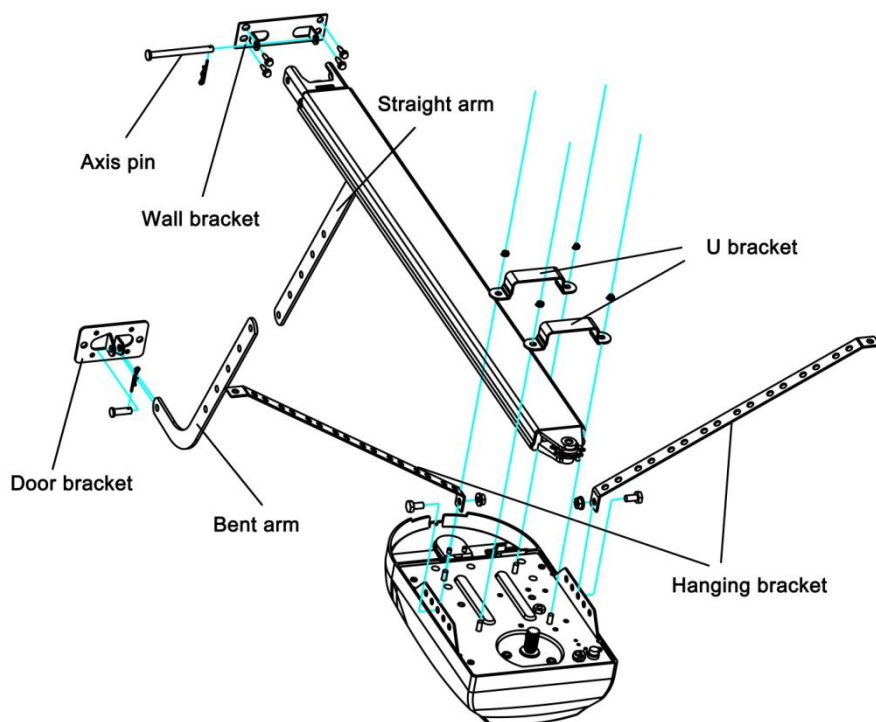

Fig. 6
2. Fixing the steel track to the wall bracket with axis pin. (Fig. 6)